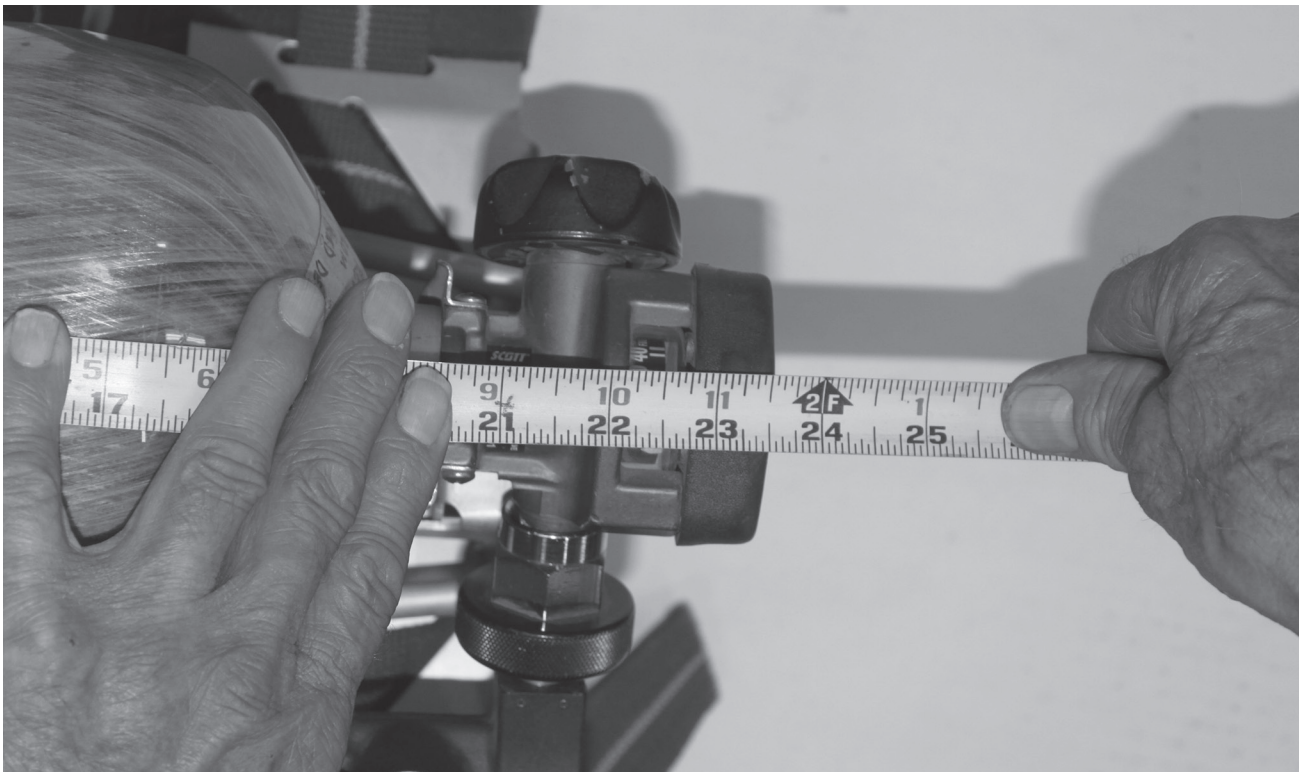

Figure 4
6. Remove the (4) T-27 torx head screws that are holding the Upper Bracket Assembly in place. Be sure not to let the weight of the Upper Bracket hang on the Adjustment Rod before reattaching.
7. Reattach the Upper Bracket Assembly in the desired position using the (4) T-27 torx head screws.
8. If using this bracket with a 30 min. 5500 PSI air cylinder, refer to page 19 now. Otherwise, reattach the Bumper Spacer Locator to the Upper Bracket Assembly with the (2) #2 Phillips head screws.
10. Measure the overall length of your desired air cylinder from bottom of the air cylinder valve to top of the air cylinder (*see Figure 4, below*). Add 1/2" to this measurement.